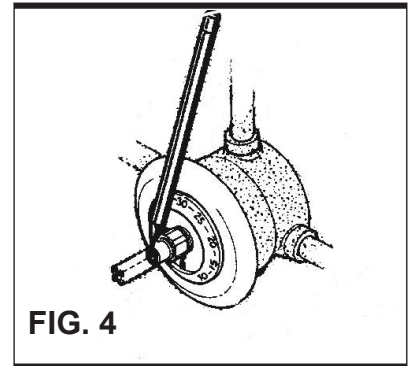

FIG. 4
10. Screw the bushing (12) onto the threaded tube. (Bushing is shipped inside the pointer assembly) Slide the square tube (10) into the bushing and drive it completely onto the control spindle. Fig. 4
11. Make a cutting mark on the square tube flush with the bushing. Fig. 4 Remove the square tube, cut it, and debur carefully. Replace the tube into the bushing and push it all the way into its recess.
12. Ensure use of nylon washer (16) between the square tube and control spindle. We recommend the replacement of the washer if the handle becomes stiff or hard to turn.